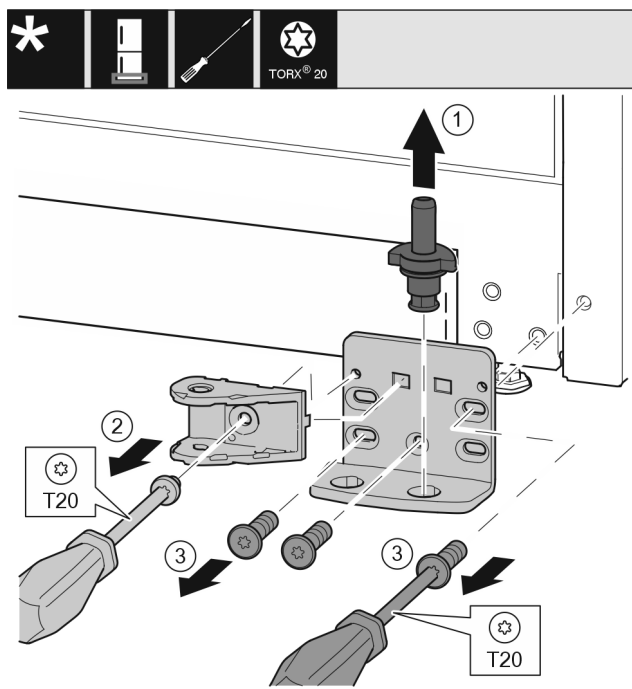

Fig. 35 *
- Pull the bearing bolt Fig. 35 (1) out upwards completely.*
- Use screwdriver to unscrew the screw Fig. 35 (2) and remove the closing damper connection.*
- Use screwdriver to unscrew the screws Fig. 35 (3) and remove the swap bearing block.*